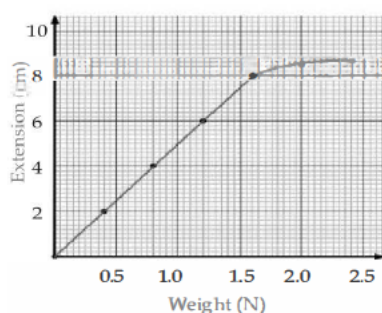

Fig 5.12
- The spring obeys Hooke's law for the earlier extensions and when the spring becomes damaged it does not appear to do so; Fig 5.12. Estimate, from graph, after addition of which weight the spring damaged.